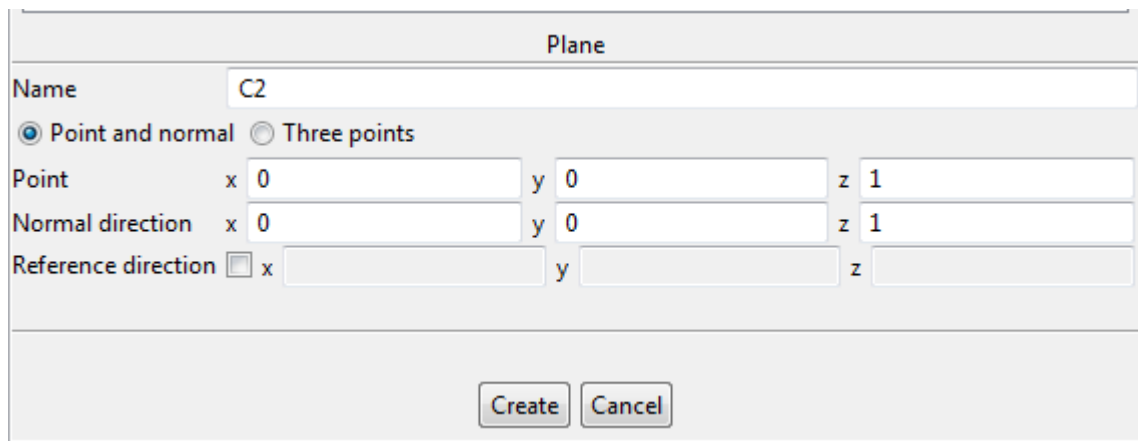

Figure 5. Plane wizard
- Specify parameters for the plane in the **Plane** wizard, which appears under the table (see Figure 5):